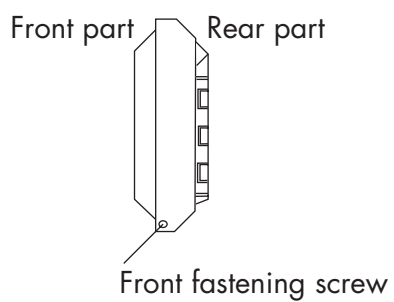

Fig.1
- remove the two self-threading screws from the bottom two corners of the front part (see Figure 1);